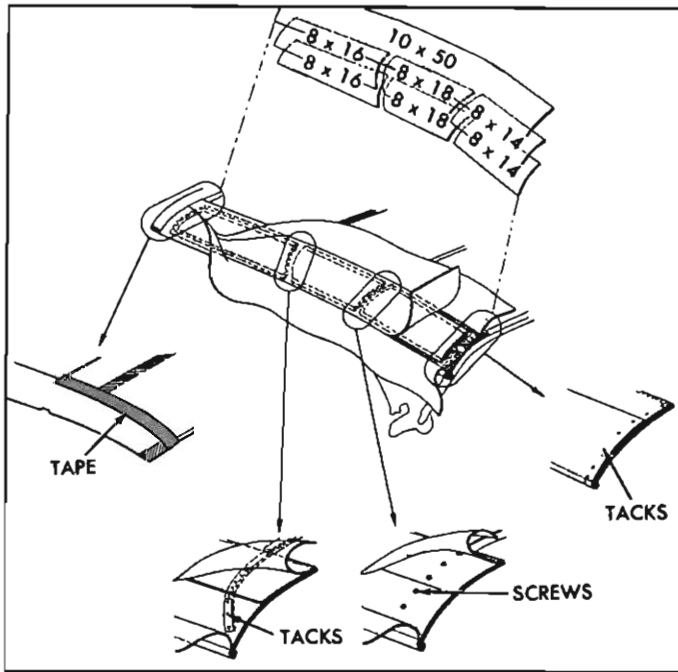

Fig. 48—Side Stay Pad Installation
3. Tack side stay pads in conventional manner to rear roof bow and stay tack pads to front roof rail. Make sure inboard edge of pad is properly aligned within depressions in bow and rail. Stay tack pads to front bow. Inboard edge of pad should be located within ¼" of outboard edge of front bow felt silencer. Install pad to center bow with screws. Make sure inboard edge of pad is properly aligned within depression in bow. Install stay pad wadding (fig. 48) in conventional manner using an approved trim cement.